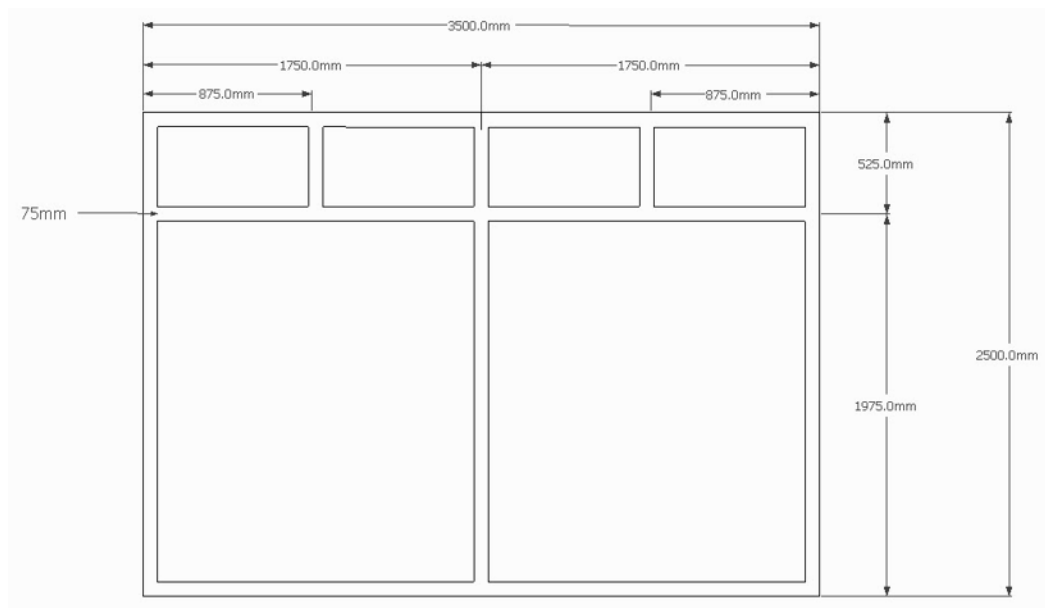

Figure 50. Window1 dimensions
- Create the window subdivisions with the dimensions shown in Figure 50.